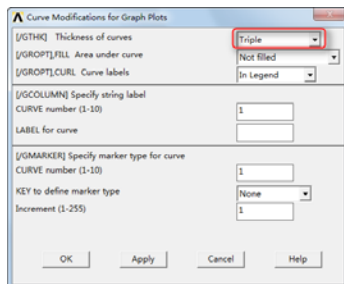

图 8-50 “Curve Modifications for Graph Plots”对话框
⑫依次选择 Utility Menu→PlotCtrls→Styles→Graphs→Modify Curves，会弹出“Curve Modifications for Graph Plots”对话框，如图 8-50 所示，在“[/GTHK] Thickness of curves”选择框中选择“Triple”，单击“OK”按钮关闭该对话框。